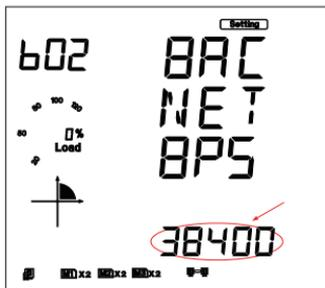

Fig 5-90
d). Set Baud Rate in the second setting page, such as 38400. The module can support the baud rate such as 9600,19200,38400,76800. Press the "V/A" key to go to the setting page. Users may set the parameters pointed out in Figure 5-90. After setting the BACnet MS/TP Baud rate, press the "V/A" key to accept. Press the "P" key to go to the third setting page for the MAX INFO FRAM.